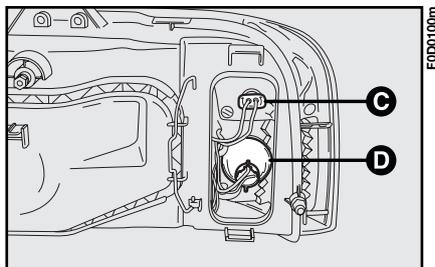

fig. 16
3) remove the bulb holder **C-fig. 16** turning it slightly to release it;
- 3) remove the bulb holder **D**-fig. 16;